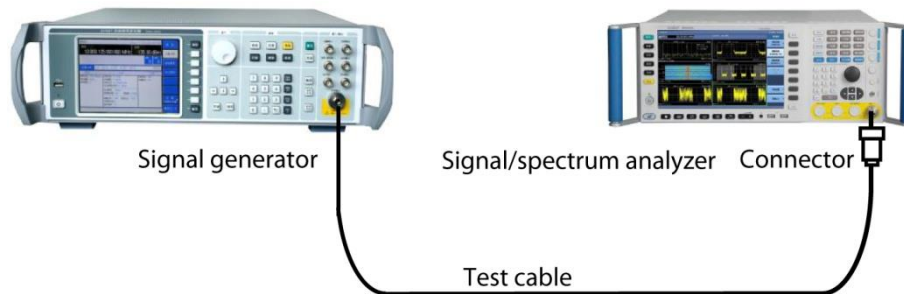

Fig 4.65 Connection settings of adjacent channel power measurement
Step 2. Connect the radio frequency output port of the signal source to that of the analyzer. As shown in Fig. 4.65: